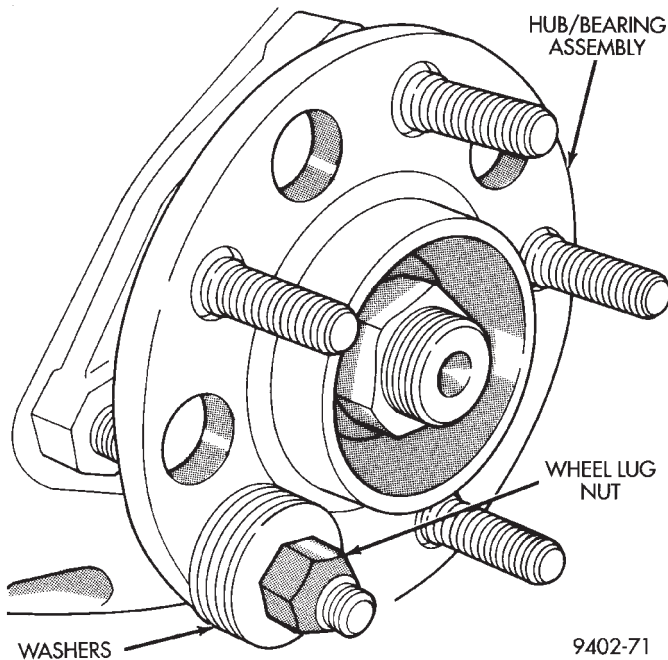

**Fig. 64 Installing Wheel Stud Into Hub And Bearing**
(1) Install wheel stud into of hub and bearing assembly. Install washers on wheel stud, then install a wheel lug nut on stud with flat side of lug nut against washers (Fig. 64).